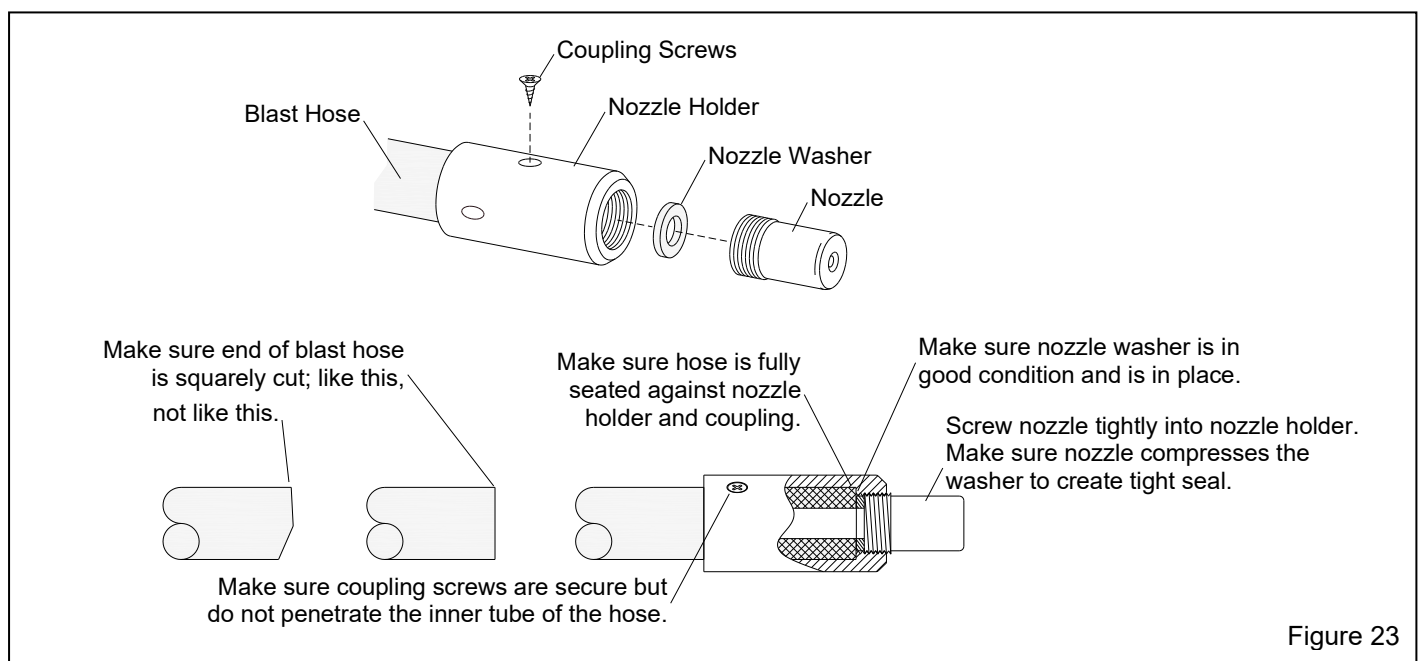

Figure 23
7.2 Blast Hose and Nozzle – Figure 23
7.2.2 When replacing blast hose, make sure the hose is square cut and that it is fully inserted into the nozzle holder and coupling until it sits tightly against the shoulder in the holder and coupling, as shown in Figure 23. Make sure correctly sized screws are used to secure the nozzle holder and blast hose coupling. Screws should not penetrate the inside of the blast hose.